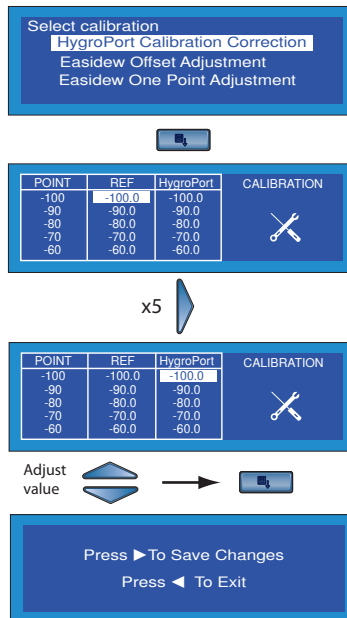

Figure 2.14 - Calibration
2.6.7 Calibration (Figure 2.14)
Figure 2.14 shows the calibration screen. Three options are available.